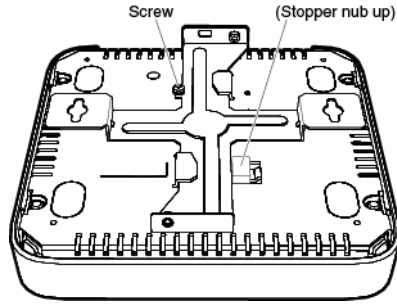

Figure 8. Attaching the Mounting-Bracket Screw
4. Attach the mounting-bracket screw through the notch in the mounting bracket to the access point, as shown in Figure 8 on page 30: The bracket is fastened to the access point.